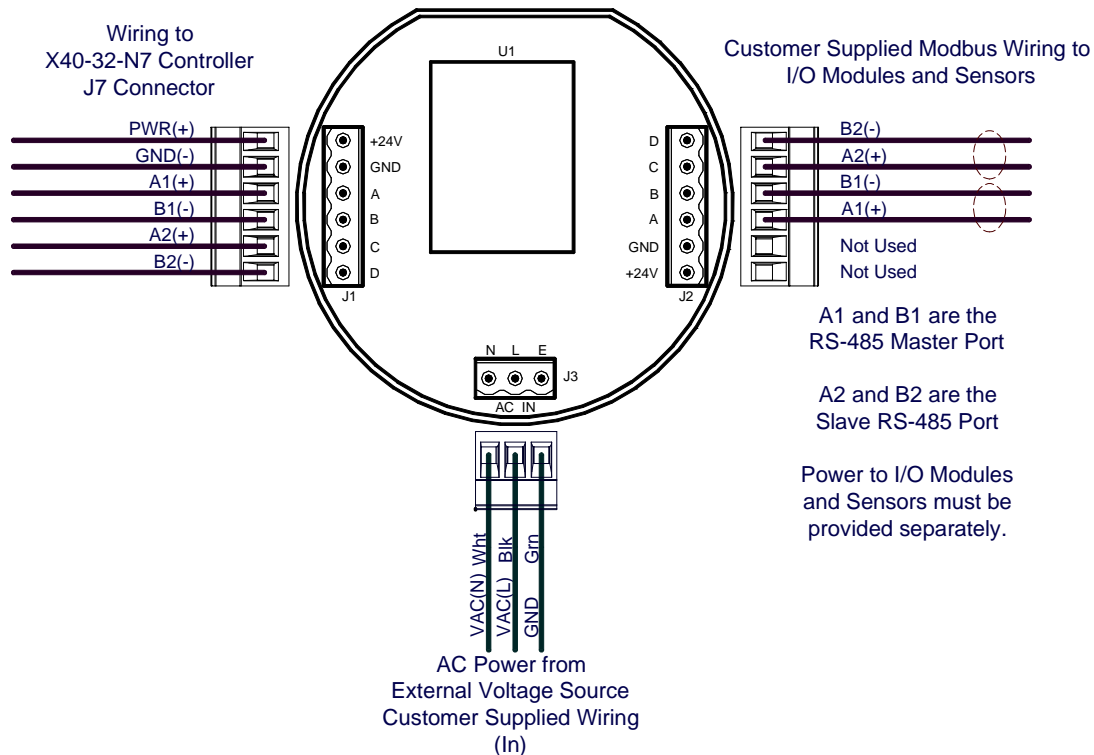

Figure 21 N7 AC/DC Converter Board Wiring
- c. Interface the I/O modules and sensors to the X40 controller through the **J2** connector of the AC/DC converter board (Figure 21).